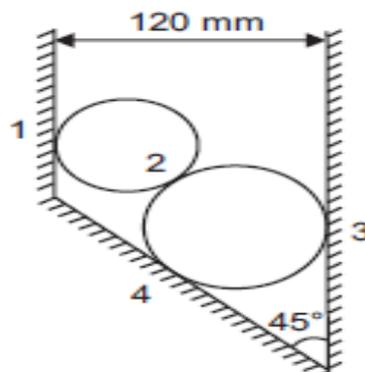

Figure 5
- b) Two cylinder of diameters 100 mm and 50 mm, weighing 200 N and 50N, respectively are placed in a trough as shown in Fig. 5. Neglecting friction, find the reactions at contact surfaces 1, 2, 3 and 4.